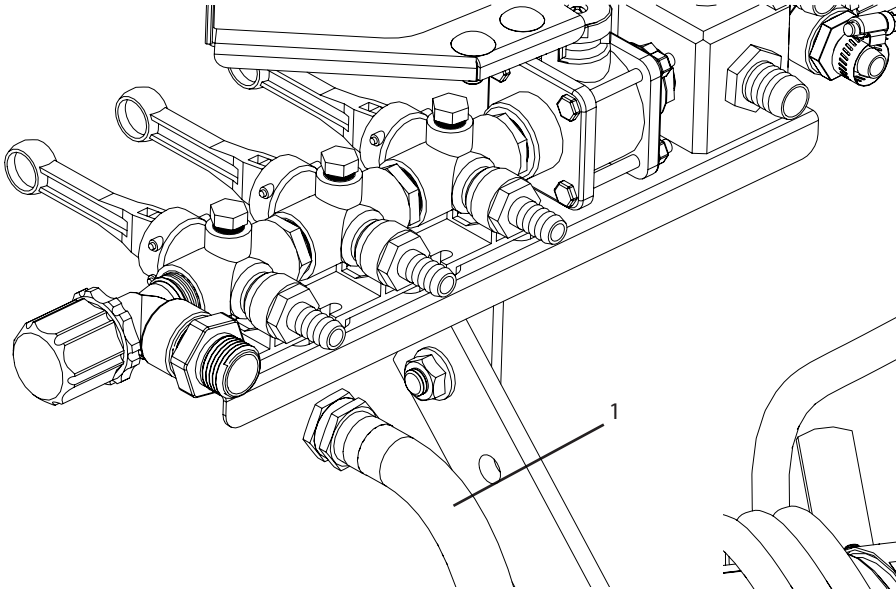

Figure 1
- Install the hose end with the garden hose adapter to the adapter on the valve. (Figure 1)